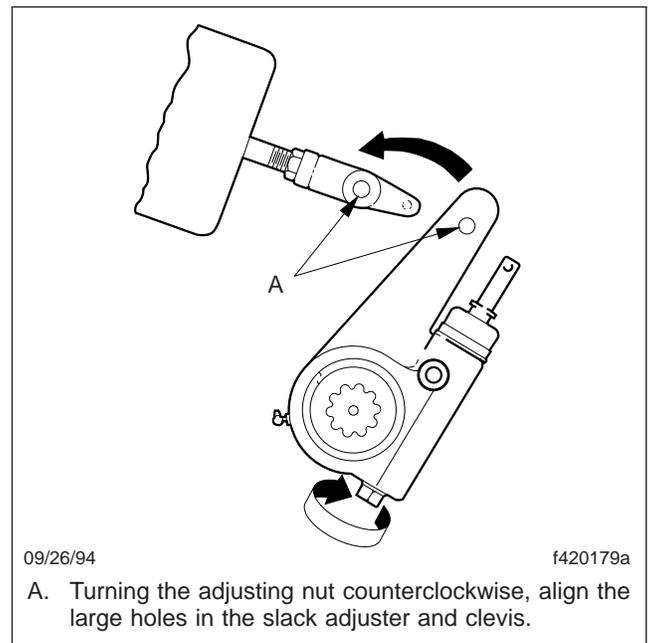

Fig. 4, Slack Adjuster Installation
- 6.5 Using a wrench, turn the manual adjusting nut counterclockwise to align the hole in the slack adjuster housing with the large hole in the clevis. See Fig. 4.
- 7.7 Using a wrench, turn the manual adjusting nut counterclockwise to align the hole in the slack adjuster housing with the large hole in the clevis. See Fig. 4.